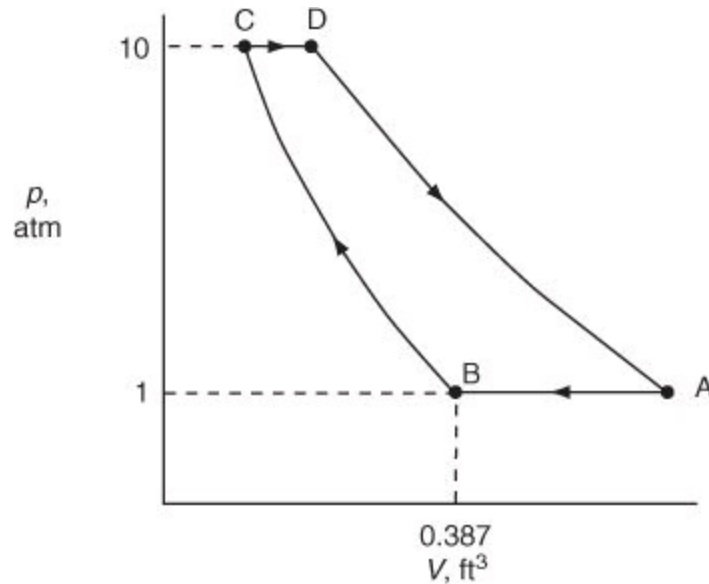

Figure P9.3.45
***9.3.45. A quantity of an ideal gas goes through the ideal cycle shown in Figure P9.3.45. Calculate: